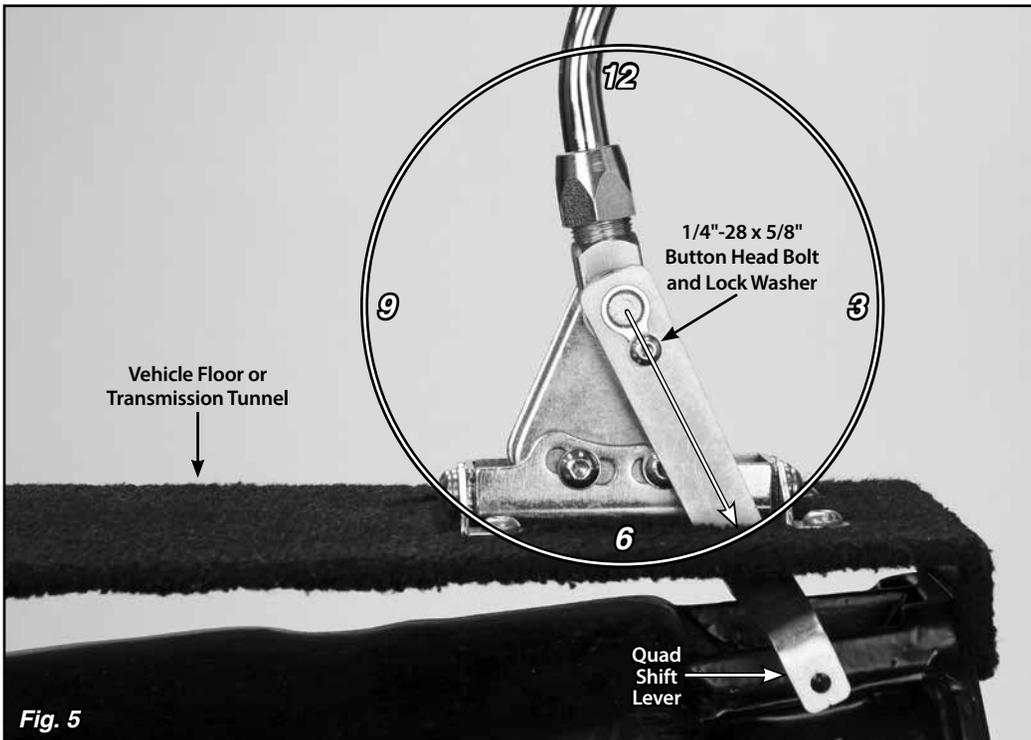

Fig. 5
Step 10: Make sure the shifter lever is in the Park position. Temporarily place the quad shift lever in position on the quad lever bushing as shown in **Fig. 5**. Check for interference with the driver side rear floor mount tab or the vehicle floor. With the shifter lever in Park, you want the quad shift lever to be as close to the 4:30 – 5:00 position as the floor mount tab will allow, without the quad shift lever touching the floor mount tab or floor.